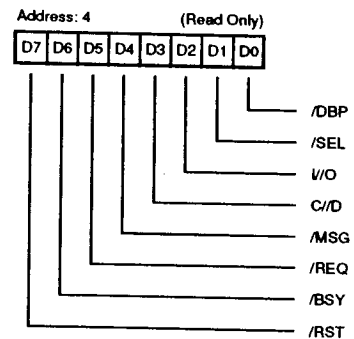

Figure 12. Current SCSI Bus Status Register
**Current SCSI Bus Status Register.** Address 4 (Read Only). The Current SCSI Bus Register is a read-only register which is used to monitor seven SCSI Bus control signals, plus the Data Bus parity bit. For example, an Initiator device can use this register to determine the current bus phase and to poll /REQ for pending data transfers. This register may also be used to determine why a particular interrupt occurred. Figure 12 describes the Current SCSI Bus Status Register.
When an interrupt occurs, the Bus and Status Register and the Current SCSI Bus Status Register (Figures 12 and 14) must be read to determine which condition created the interrupt. IRQ can be reset simply by reading the Reset Parity/Interrupt Register or by an external chip reset /RESET active for 100 ns.